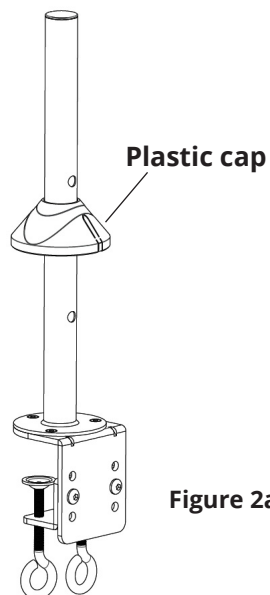

Figure 2a
3. Install the Plastic cap over the 35mm Tube support, see Figure 2a This step is optional. The plastic cap covers the mounting surface to provide a cleaner installation.